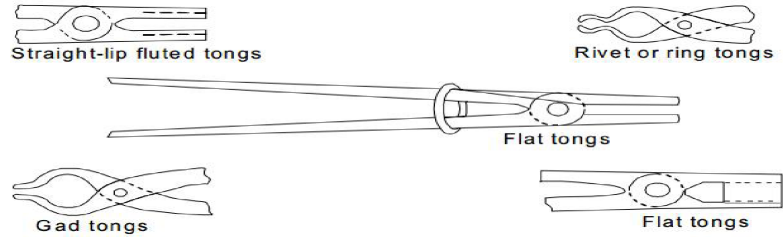

Fig.4 Types of Tongs
**v) Tongs:** The work to be forged is generally held with tongs. The tongs ( as shown in fig. 4) generally used for holding work are i) the gad tong used for general pick up work, either straight or tapered. ii) The straight- Lip fluted tong used for square, circular and hexagonal bar stock.